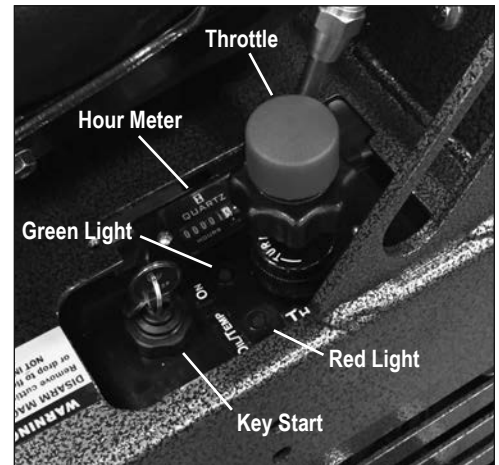

FIG. 7
5. Start with ignition key switch. Both a red & green light will illuminate (Figure 7). As soon as engine starts, the red light will shut off. **Note:** If the red light does not shut off, turn machine off.